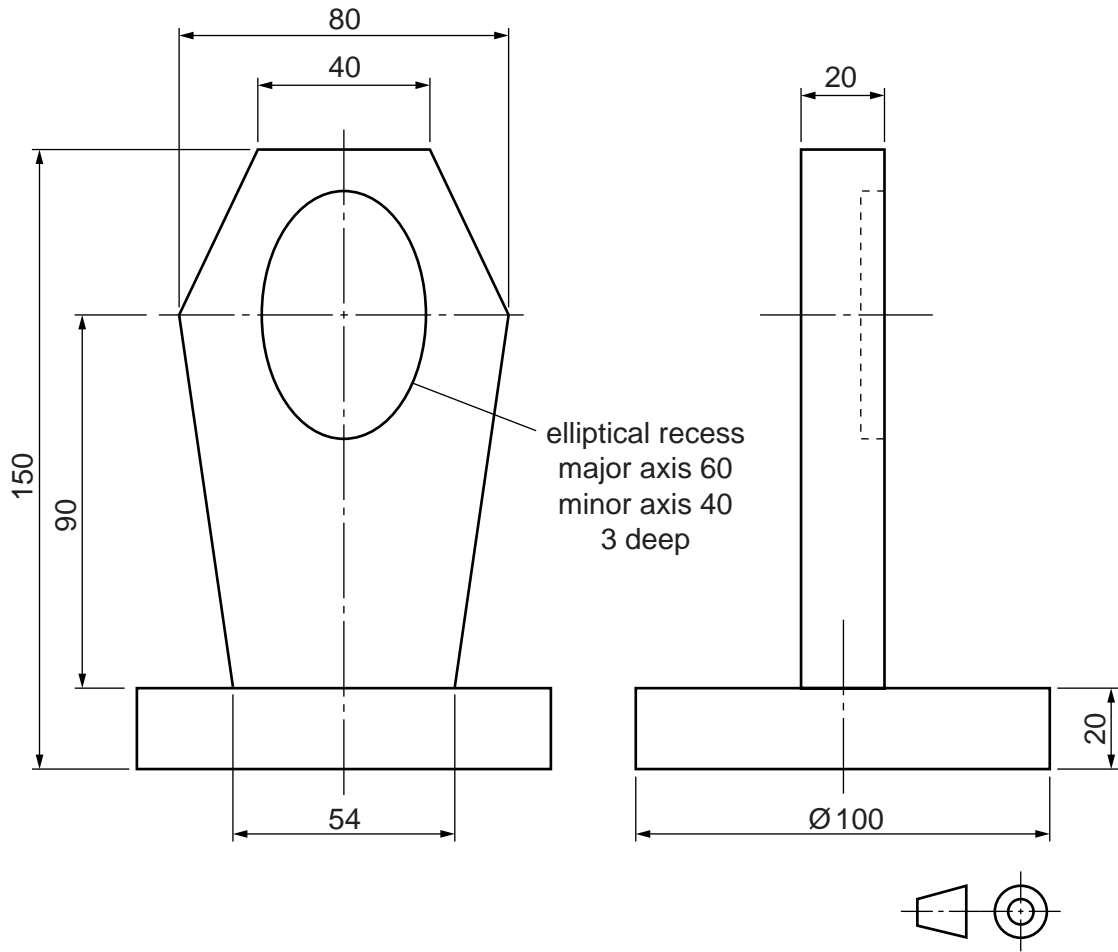

Fig. 3
- 7 Fig. 3 shows a trophy to be awarded for achievement in school sport.